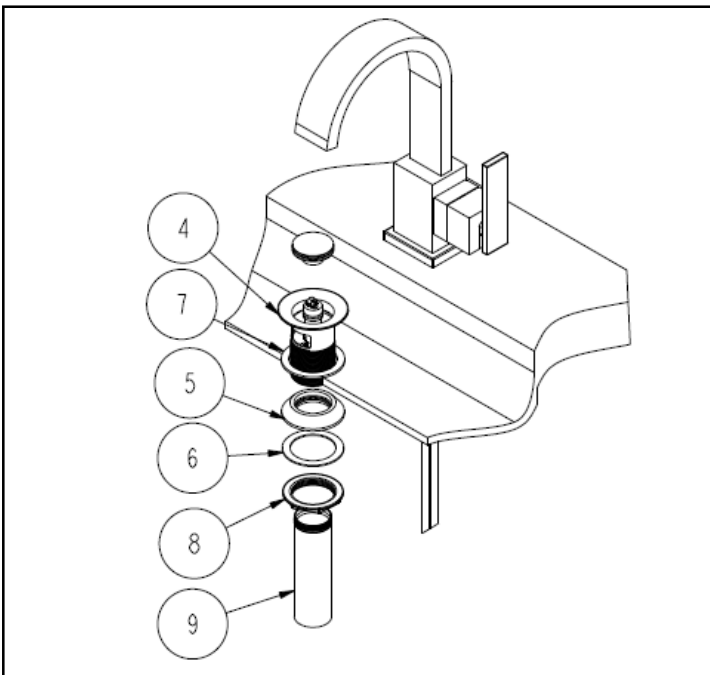

Figure 3
3. Drain assembly installation. Remove drain FLANGE (4) from TAILPIECE (9). Place FLANGE WASHER (7) and then FLANGE (4) through sink drain opening. (Clear silicone may be used in place of white washer.) From bottom side of sink, place cone shaped rubber WASHER (5) onto FLANGE (4) and slide up against sink bottom. Note: Cone portion of WASHER (5) to face upward. Next slide on clear WASHER (6) and secure with flange NUT (8). Place NUT (8) & tighten to FLANGE (4). See Figure 3.